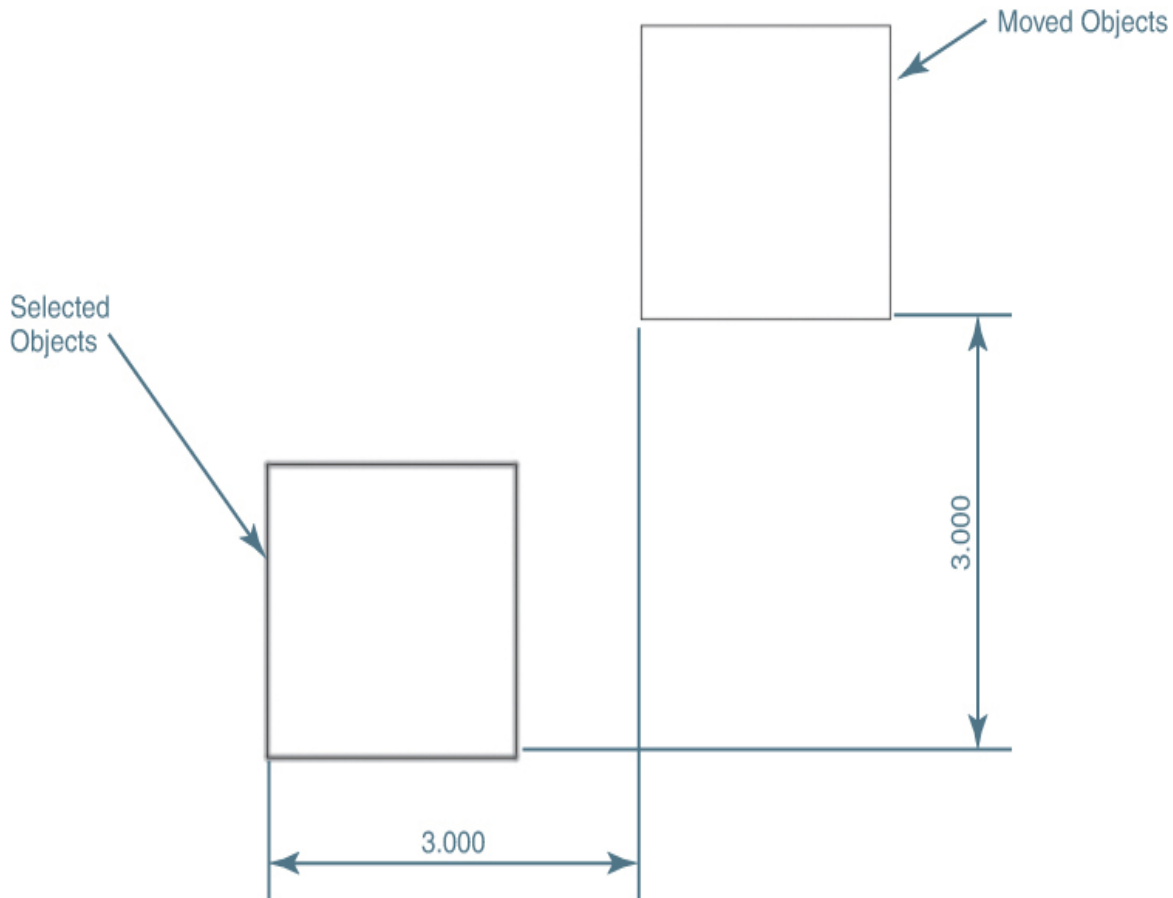

Figure 7-24
You can enter the displacement distance using either rectangular (x,y) or polar (@distance<angle) coordinates. Entering **3,3<Enter>** results in the move operation shown in Figure 7-24.
- 12** Press **<Enter>** again to use the first point entered as the displacement distance. The square moves +3 units on the X-axis and +3 units on the Y-axis, as shown in Figure 7-24.